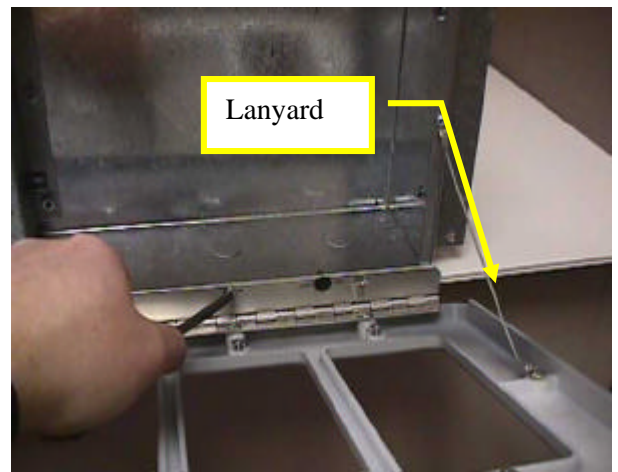

Figure 16 – Installing hinge and lanyards
- 4.4.3 While supporting the front panel, attach the hinge to the back box using four of the 6-32 fasteners provided to hold the dust cover on the back box (See Figure 16).
- 4.4.4 While supporting the front panel, finish installation by attaching both lanyards with the fasteners used to hold the dust cover on the back box (See Figure 16).